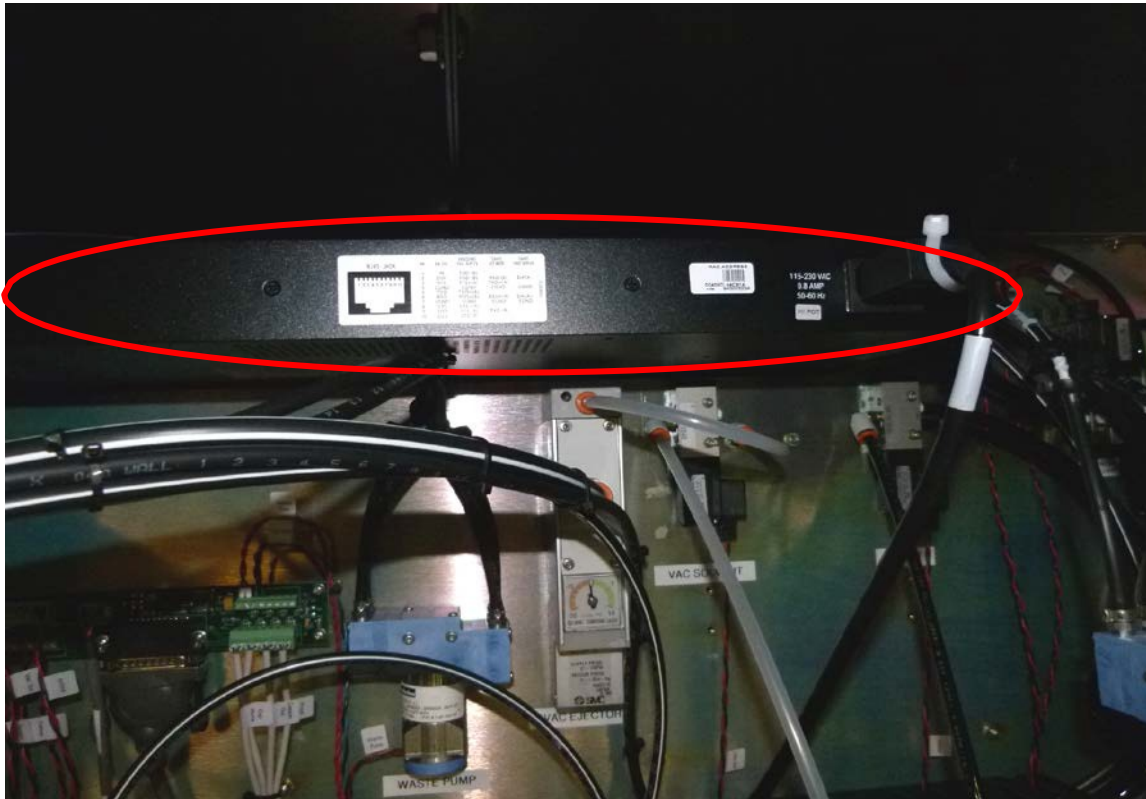

Figure 9: Serial server in ink cabinet
1. Ensure serial server is powered **ON**. Serial server is mounted in ink cabinet as shown in **Figure 9**.